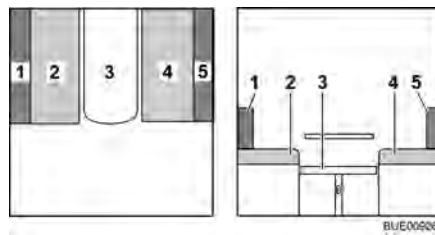

Fig. 78 During conversion
- Remove the back cushion (Fig. 78,5) and lay it aside.
- Pull the seat cushion (Fig. 78,2) into the middle.